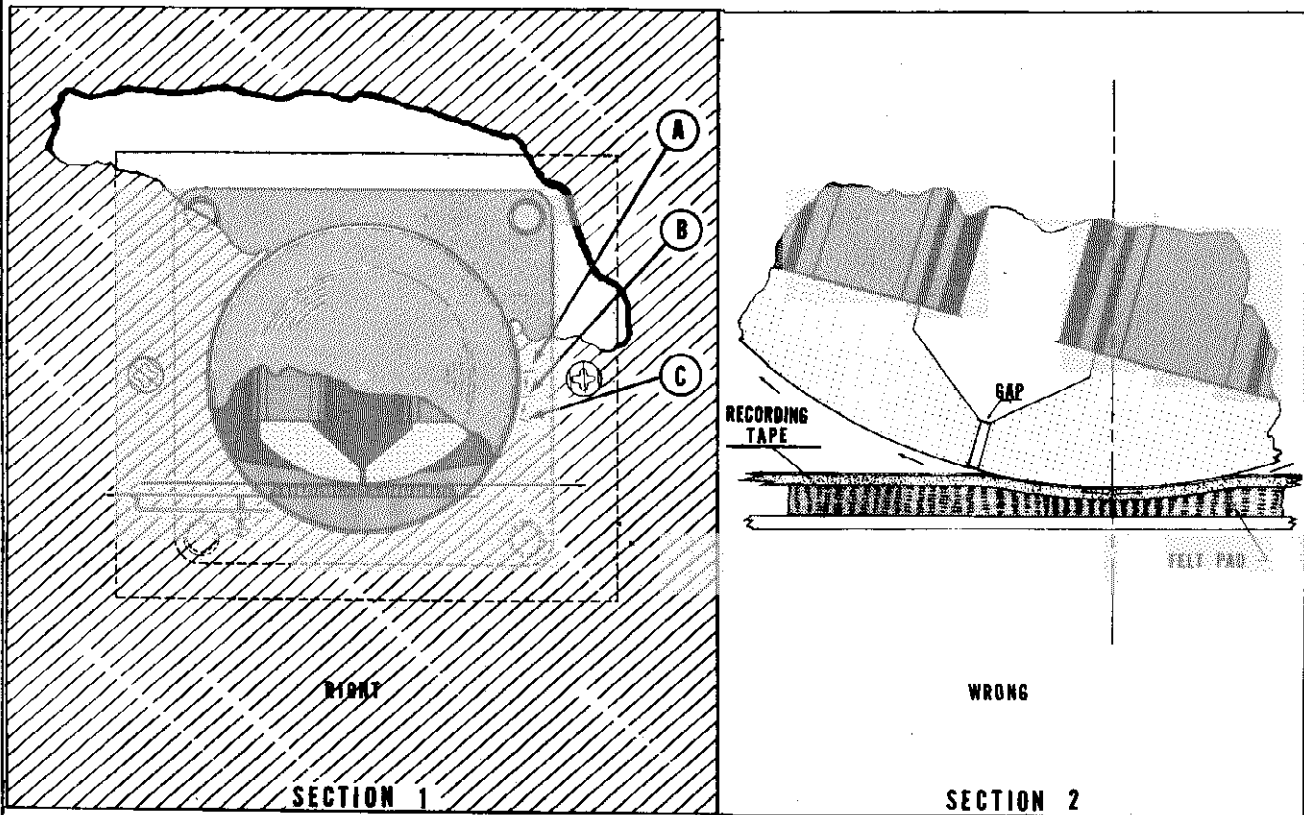

FIGURE 8—RECORD-PLAY HEAD ADJUSTMENT
- 9. Turn the control knob to the "off" position #1 to stop the reels. The cut-a-way of the head (Fig. 8) shows how the polepieces should contact the ribbon. If the head is rotated too far in either direction the gap will not contact the ribbon which will result in a lack of high frequencies or no signal at all being recorded or reproduced.
- 10. Place a mark on the panel at point "B" of Figure 8 to identify the "minium hum" position of step 7. The mark should be made in line with the end edge of the opening in the record head.